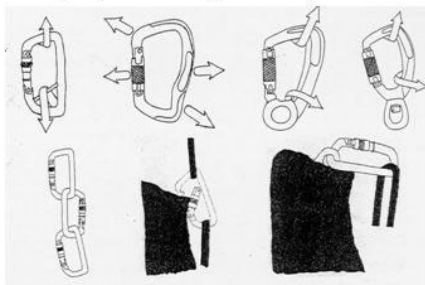

Fig. 7
- Ensure loads applied to carabiners are directed in the proper orientation. Proper and improper loading techniques are shown below in Fig. 7.